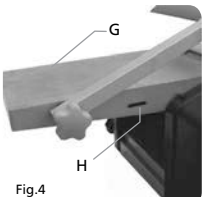

Fig.4
- Lift the arm 'G' of the cutter block guard in order to free the mortises (Fig. 4).